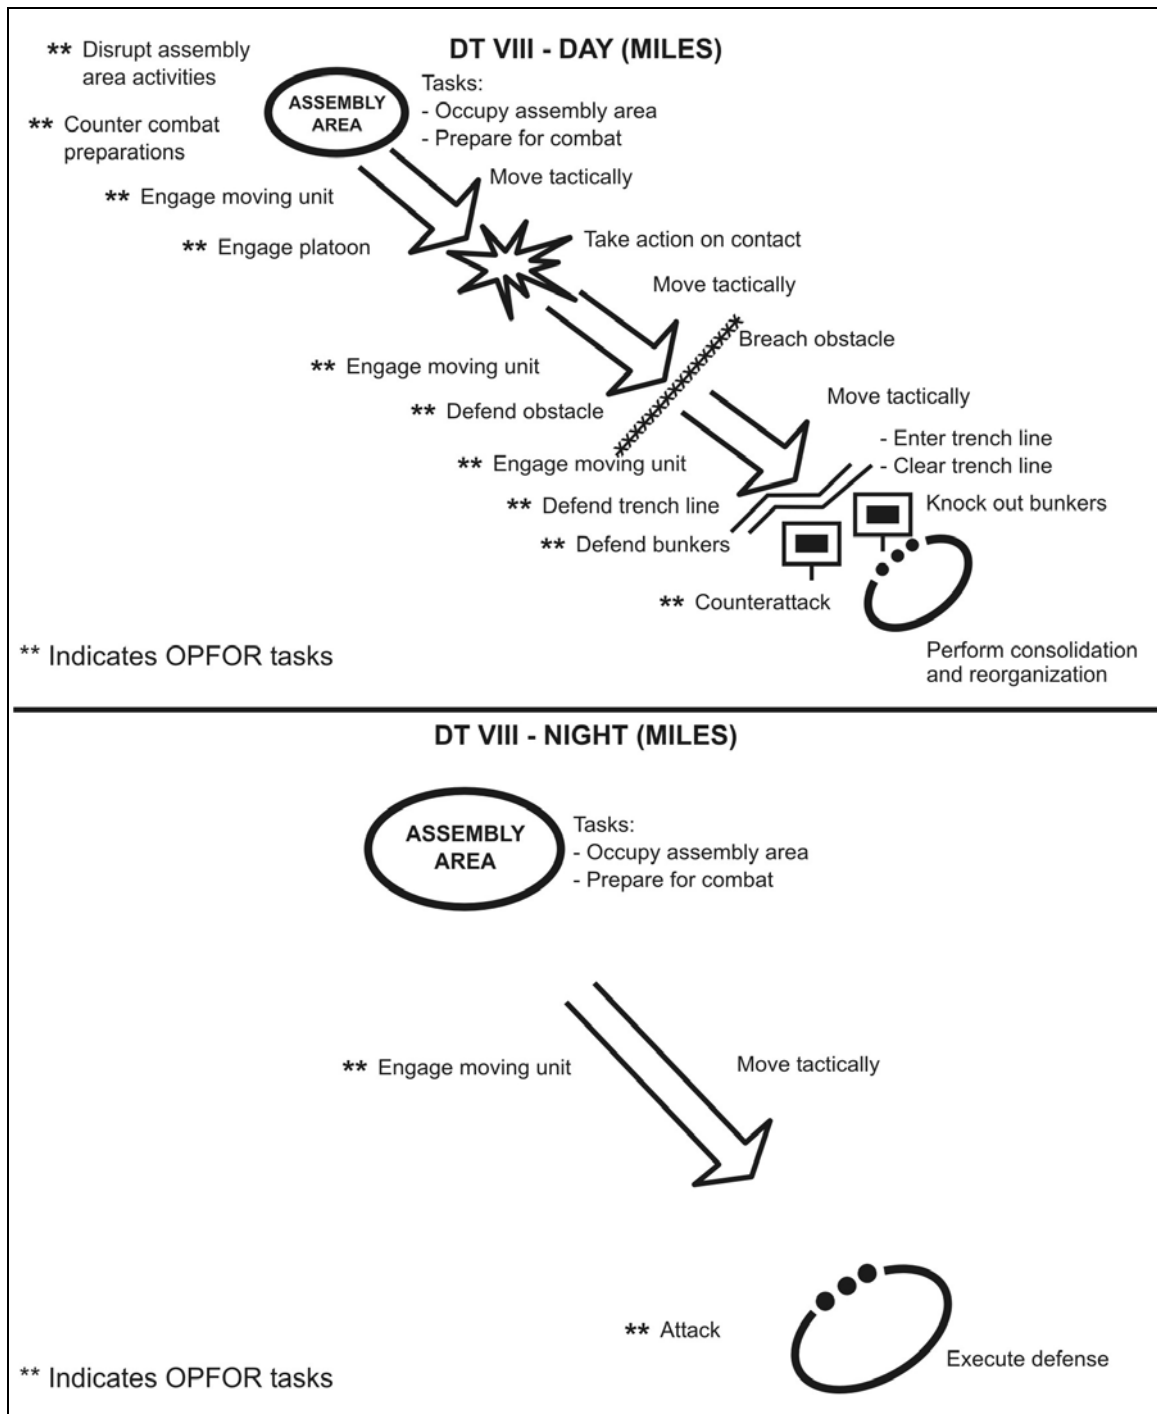

Figure F-19. Platoon certification (Table VIII).
c. **Table VIII--Platoon Certification.** DT VIII evaluates the rifle infantry platoon's conduct of tactical tasks, day and night (Figure F-19, page F-19).